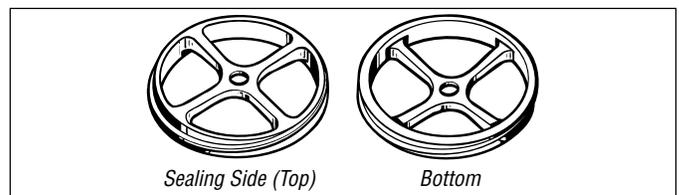

Figure 14
1.3.9 Examine the oral seal assembly(37) to identify the raised sealing ridge which surrounds the hole on one side (see Fig. 14). Guide the seal into place through the large opening of the body, so that the sealing ridge is facing down directly over the poppet stem of the oral button assembly, and the flat, non-sealing side is facing up. Lay the washer(37a) inside the recess so that it is centered directly over the hole.
1.3.11 Closely examine the exhaust diaphragm retainer(39) to identify the flat sealing surface (top), which is opposite the side that is recessed (bottom). (See Fig. 14.) Insert the stem of the diaphragm(40) through the center hole in the top of the retainer, and gently pull the stem through the retainer only as far as is necessary to seat the barb on the recessed side. Snip off the excess portion of stem just above the barb to prevent any obstruction of the oral seal.